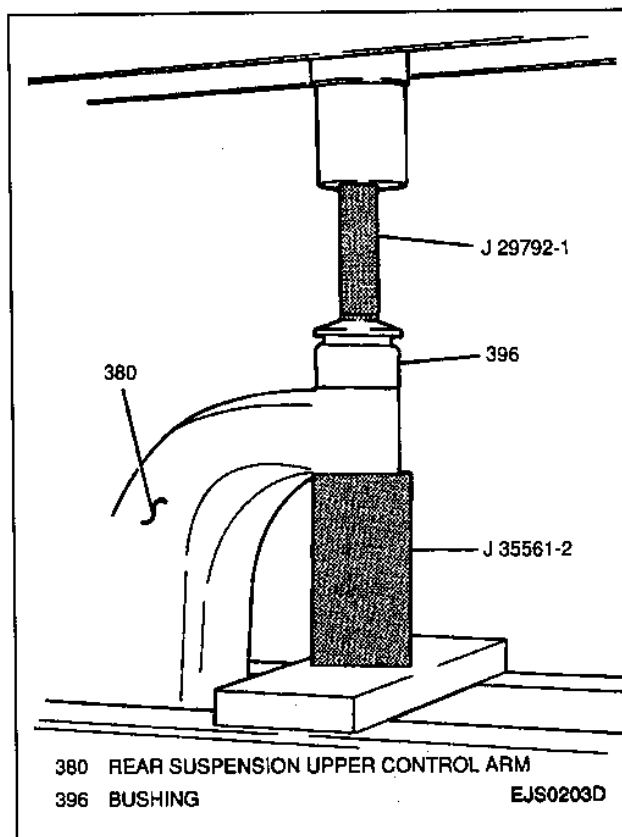

Figure 21—Installing Rear Suspension Upper Control Arm Bushing
1. New bushing into upper control arm using a press, a J 29792-1 and a J 35561-2 (Figure 21).